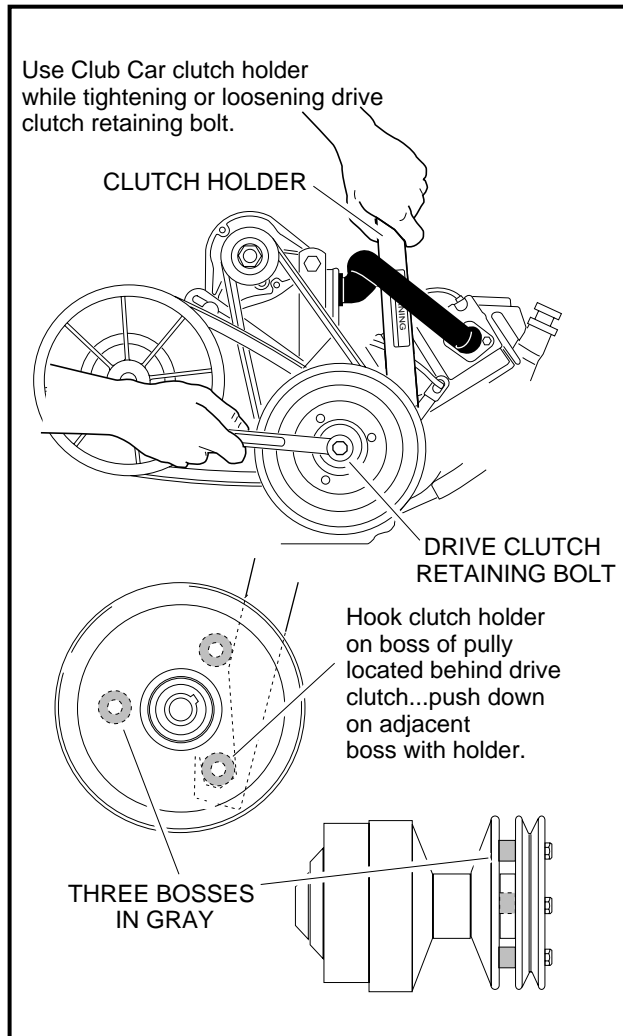
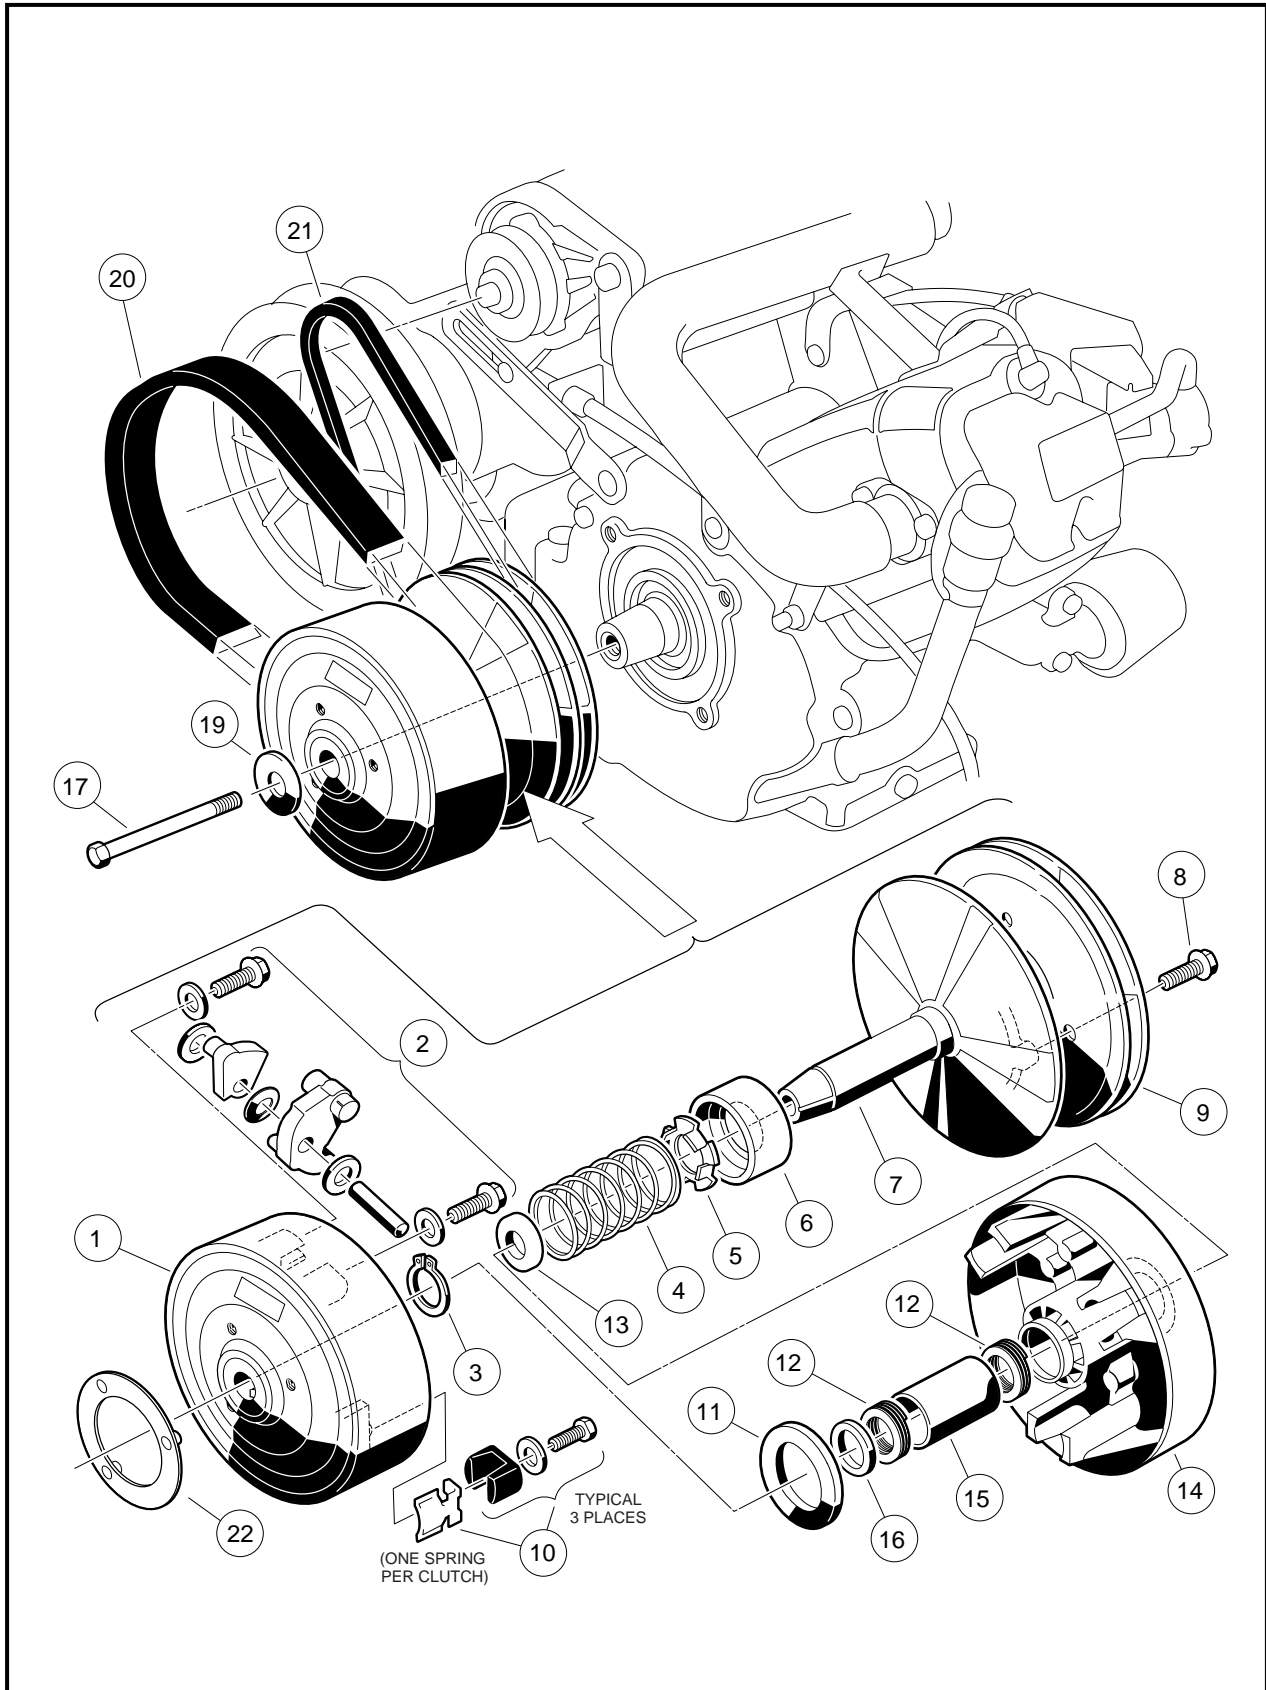
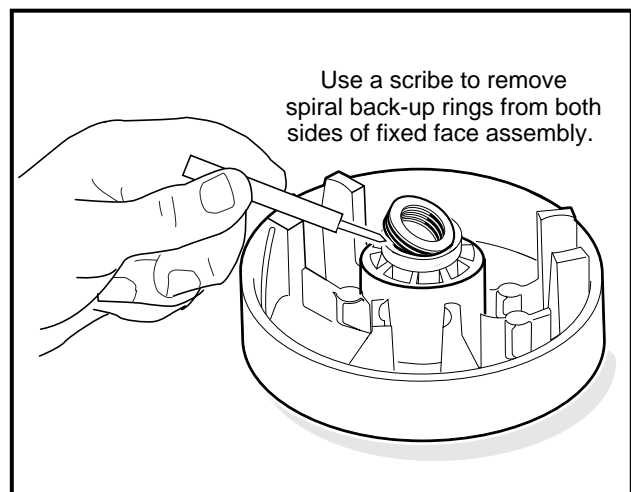

Figure 17-3 Loosen Retaining Bolt
Figure 17-5 Drive Clutch Assembly
Figure 17-11 Spiral Back-up Rings
3. If cleaning the driven clutch does not solve the problem, disassemble and thoroughly clean all parts of the drive clutch. Be sure to clean the plastic drive buttons (10) (**Figure 17-5, Page 17-6**).
3. Remove the drive clutch retaining bolt (17) and mounting washer (19) (**Figure 17-5, Page 17-6**). **See also Figure 17-3, Page 17-5.**
- Use only a dry cloth to lightly wipe the shaft of the fixed face assembly (7) (**Figure 17-5, Page 17-6**). Do not use a brush or steel wool. These will damage the surface of the shaft.
2. Remove the clutch cover (1) (**Figure 17-5, Page 17-6**):
- 2.1. Remove the clutch plug (22) (**Figure 17-5, Page 17-6**).
3. Remove the thrust washer (11) from the moveable face (14) (**Figure 17-5, Page 17-6**).
- Remove the retaining ring (3) from the shaft of the fixed face assembly (7) and slide the moveable face (14) off the shaft (**Figure 17-5, Page 17-6**). See following NOTE.
NOTE: If the moveable face is removed from the hub of the fixed face, the spiral back-up rings (12) (**Figure 17-5, Page 17-6**) must be replaced with new ones.
- Remove the spacer (16), and spring (4) and retainer (5). The spring retainer can be removed from the spring if necessary (**Figure 17-5, Page 17-6**).
- Use a scribe or small pick to remove the spiral backup rings (12) from each end of the bore in the fixed face assembly (**Figure 17-5, Page 17-6 and Figure 17-11, Page 17-9**). Discard the rings.
1. Inspect the idler bearing (6) for smooth rotation or seal damage (**Figure 17-5, Page 17-6**).
2. Inspect the bore of the moveable face assembly (14) for scarring or wear. The moveable face assembly must be replaced if the bore is worn to a diameter of 0.883 inch (22.4 mm) or larger (**Figure 17-5, Page 17-6**).
3. Inspect the steel shaft (7) on the fixed face assembly. There should be no measurable wear anywhere on the shaft. Replace the shaft if it is worn, scratched, or damaged (**Figure 17-5, Page 17-6**).
4. Inspect the thrust washer (11) for wear. If it is worn more than 0.030 inch (0.76 mm), turn it over or replace it with a new one (**Figure 17-5, Page 17-6**).
5. Inspect the primary weights (2) and the hub casting for wear. If the primary weights show signs they are touching the casting, the tips of the weights have worn beyond specification and they must be replaced (**Figure 17-5, Page 17-6**).
6. Inspect the pins on the primary weights (2). There should be no measurable wear. Replace them if they are worn, scratched, or damaged (**Figure 17-5, Page 17-6**).
1. Press idler bearing (6) onto the shaft of the fixed face assembly (7). Press on the inner race of the bearing only. Make sure that the cup side of bearing is facing away from the fixed face (**Figure 17-5, Page 17-6**).
2. Using needle nose pliers, install the spring retainer (5) onto the spring (4) (**Figure 17-5, Page 17-6**).
3. Install the spring (4) and retainer (5) into the cup of the idler bearing (6) (**Figure 17-5, Page 17-6**).
4. Install the spacer (13) onto the shaft of the fixed face (**Figure 17-5, Page 17-6**).
5. Install a new spiral backup ring (12) in each end of the bore of the moveable face assembly (14) (**Figure 17-5, Page 17-6**).
6. Install the moveable face assembly (14) onto the shaft of the fixed face assembly (7) (**Figure 17-5, Page 17-6**).
- 6.2. Install the retaining ring (3) (**Figure 17-5, Page 17-6**).
12. Install the 1/4-20 screws and washers (2) and tighten them to 10 ft-lb (13 N·m) (**Figure 17-5, Page 17-6**).
17. Install the thrust washer (11) onto the moveable face assembly (Figure 17-5, Page 17-6).
18. Install the hub assembly (1) on the moveable face assembly and align the match marks made before disassembling the clutch. Press the hub assembly on by hand (Figure 17-5, Page 17-6).
2. Tighten the drive clutch retaining bolt (17) to 25 ft-lb (33.9 N·m) (**Figure 17-5, Page 17-6**).